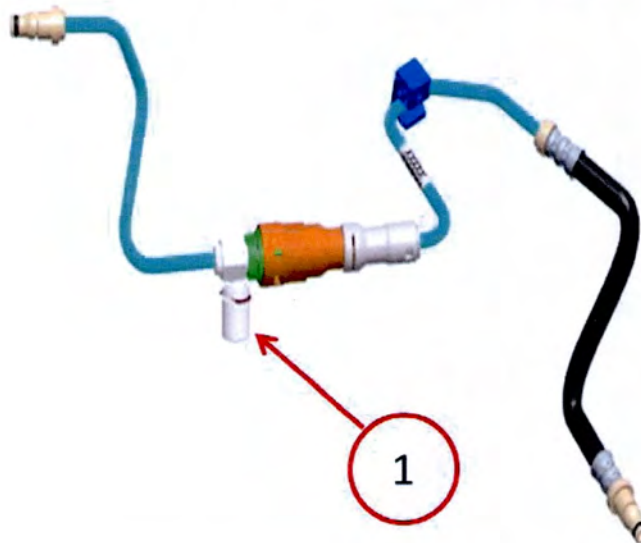

Fig. 8 Hydraulic Line With Cap
8. Install cap onto the hydraulic line in place of the damper (Fig. 8).